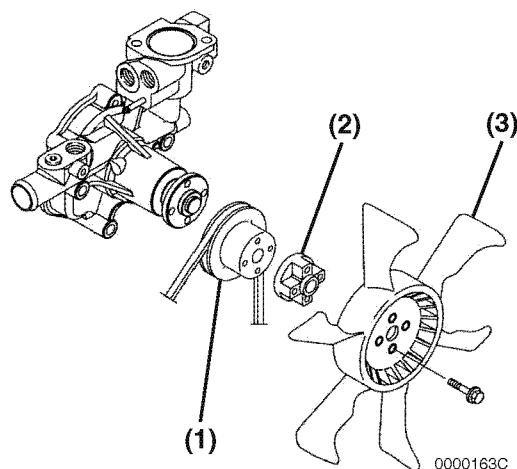

Figure 9-31
5. Reinstall the engine coolant pump V-pulley **(Figure 9-31, (1))**, spacer **(Figure 9-31, (2))**, engine cooling fan **(Figure 9-31, (3))** and engine cooling fan guard (if equipped).